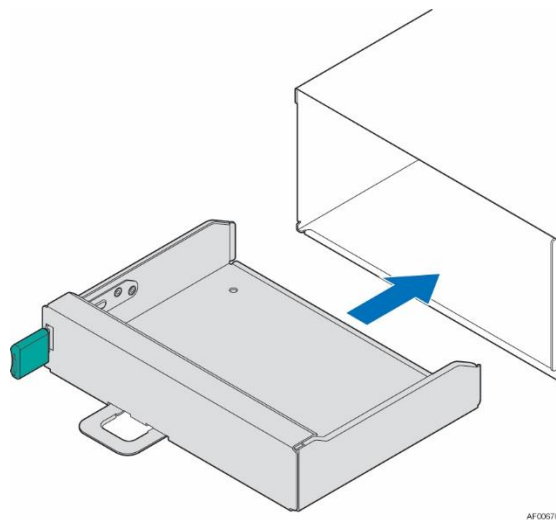

Figure 32. Restoring the dummy tray cover
2. Restore the dummy tray cover (Figure 32).